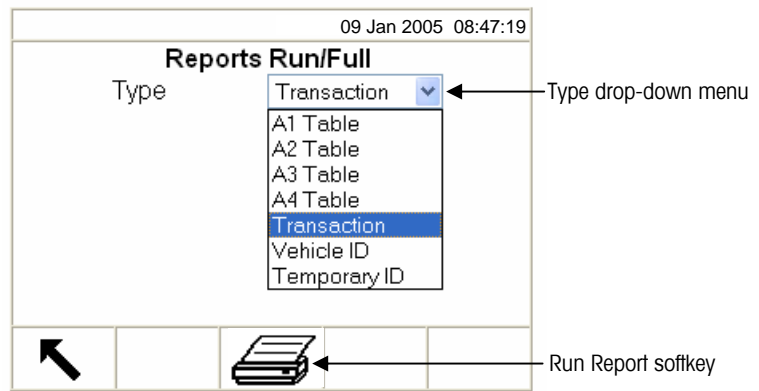

Figure 2-17: Reports Run/Full Screen
1. Press the RUN REPORT softkey. The Reports Run/Full screen displays (see Figure 2-17).